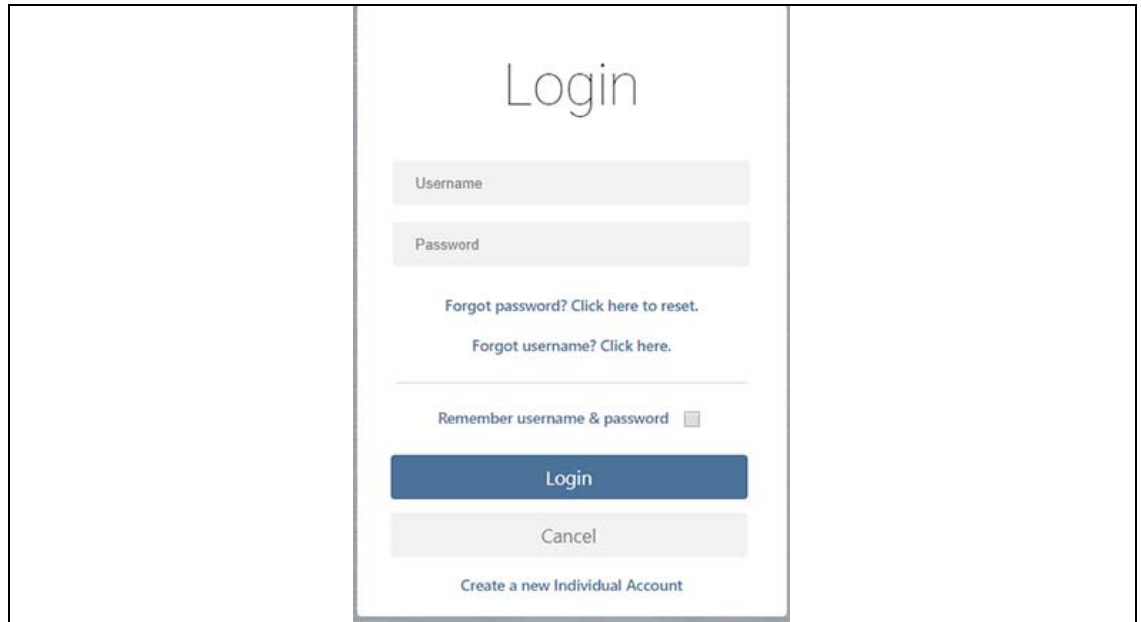

Figure 8-2
3. Log in using your **Username** and **Password** (Figure 8-2).